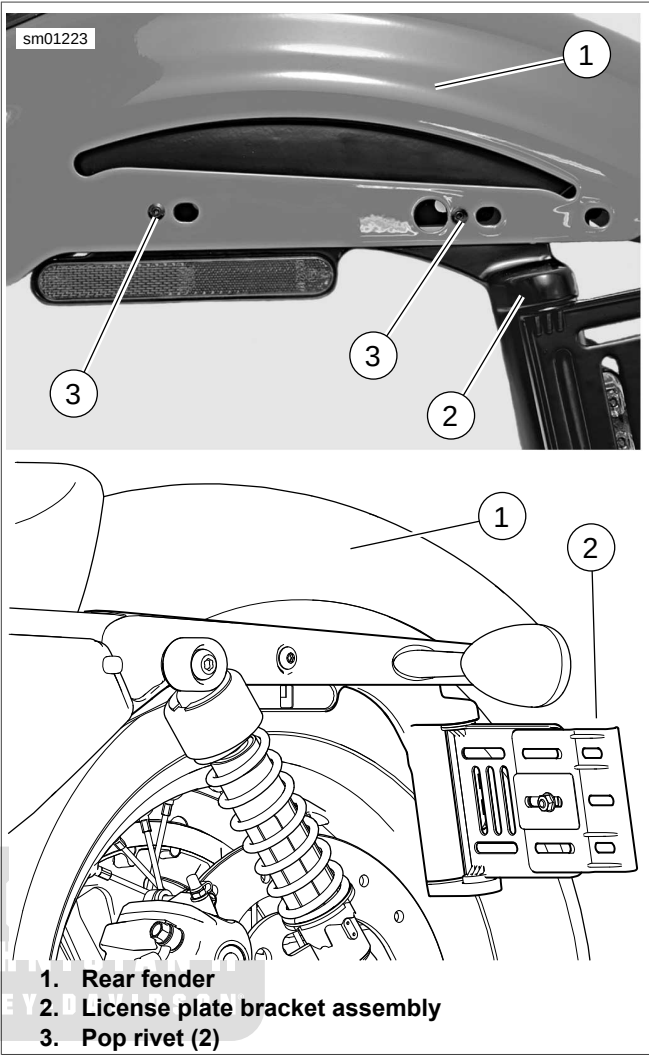

Figure 2-212. Removing/Installing License Plate Bracket Assembly (domestic)
- b. See Figure 2-212. Carefully drill out two pop rivets (3) securing license plate bracket assembly (2) to left side of fender.
- Install fender seat nut kit (8).
- a. See Figure 2-212. Position license plate bracket assembly (2) against inside of rear fender (1) on left side. Line up holes in bracket with holes in fender and secure bracket to fender with two **new** pop rivets (3).